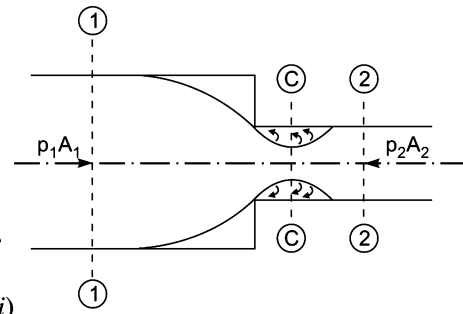

Fig. 11.2 Sudden contraction.
11.4.2 Loss of Head due to Sudden Contraction. Consider a liquid flowing in a pipe which has a sudden contraction in area as shown in Fig. 11.2. Consider two sections 1-1 and 2-2 before and after contraction. As the liquid flows from large pipe to smaller pipe, the area of flow goes on decreasing and becomes minimum at a section C-C as shown in Fig. 11.2. This section C-C is called Vena-contracta. After section C-C, a sudden enlargement of the area takes place. The loss of head due to sudden contraction is actually due to sudden enlargement from Vena-contracta to smaller pipe.